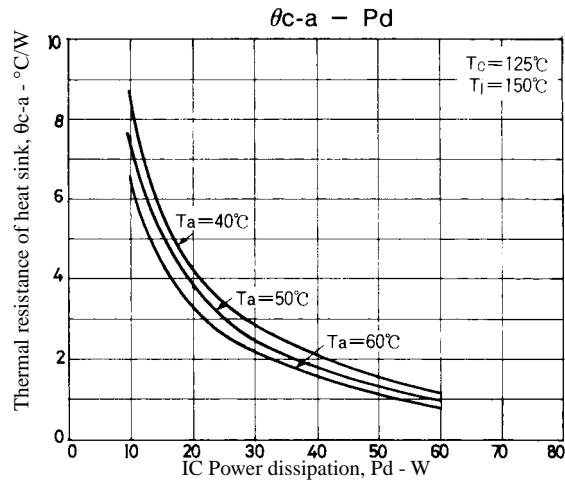

Figure 2. STK4432 $\theta_{c-a} - P_d$
Figure 2 shows the relation between P_d and θ_{c-a} given from (1) and (3) with T_a as a parameter.
The thermal resistance of a heat sink is obtained from Figure 2.